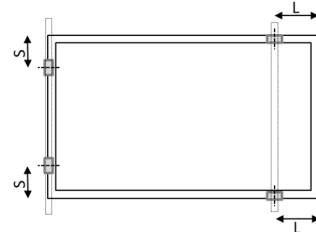

Fig. A3a: Clamp position on long & short frames
**Table.A3-1 Test load using clamps on long & short frames (see Fig. A3a,A3b)**
**Table.A3(-1) Design load using clamps on long & short frames (see Fig. A3a,A3b)**